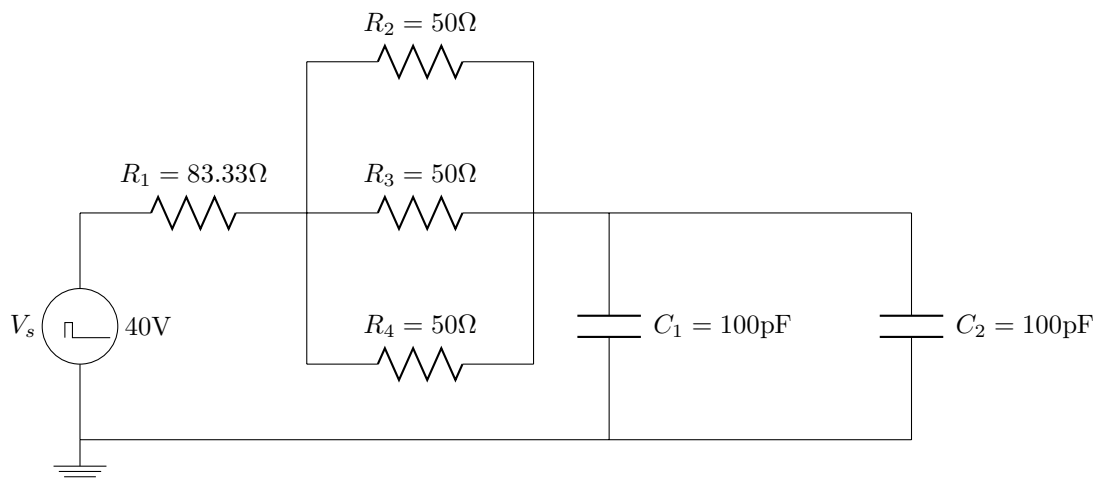

Figure 4:
1. Theoretical work for Figure 4 below:
2. Create the circuit in Figure 4 using Multisim. Use the full diagram rather than your reduced version. Remember to close the old design file and start a new one for this circuit. Save your drawing and be sure to include a complete drawing of it in your lab book.